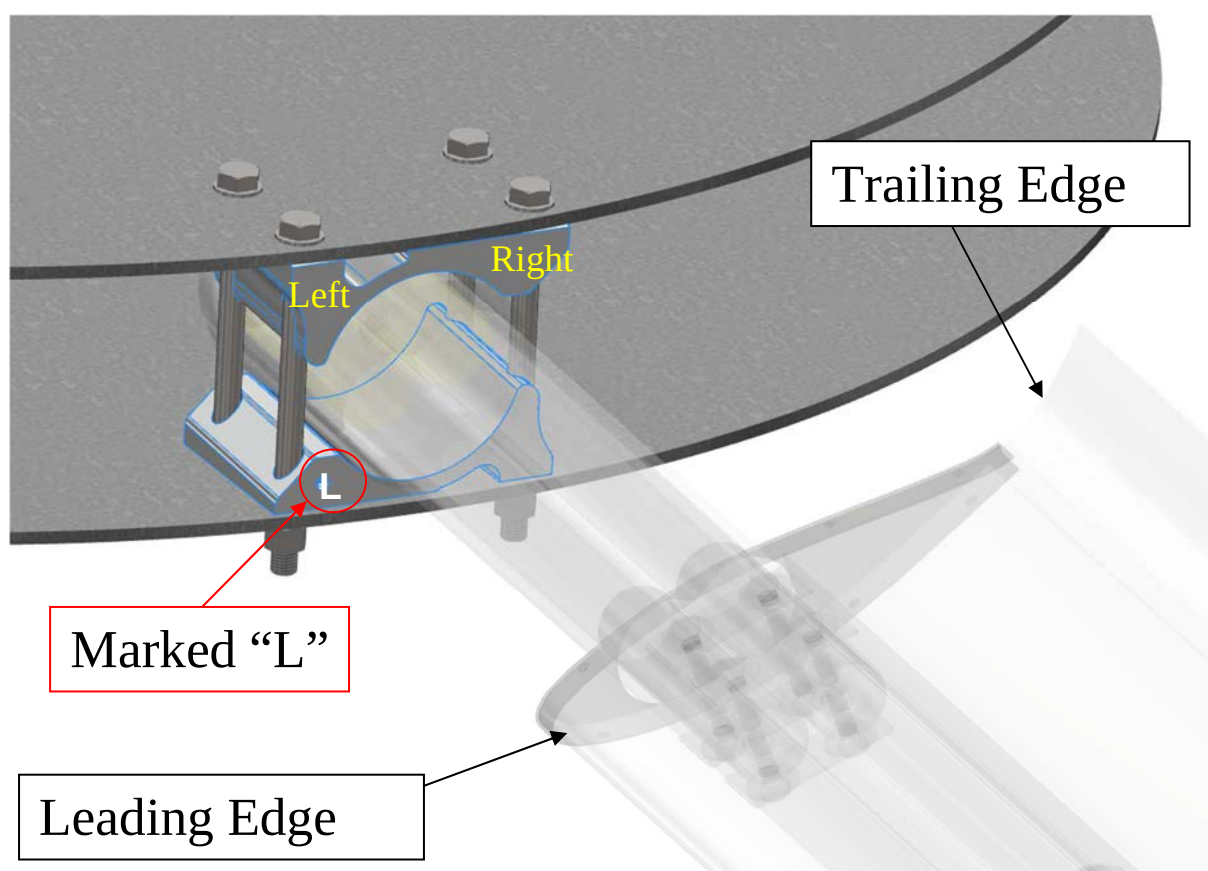

Figure 2.18d: correct position of the blocks
**WARNING:** make sure that the marked "L" (figure 2.18d) is correctly positioned: the marked "L" must always and only be on the bottom block [32] on left side, facing the block on the side of the blade.